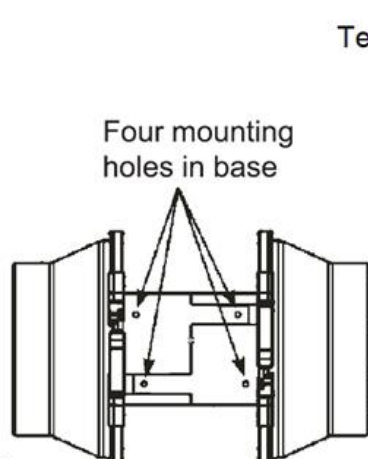

Fig. 9 – Secure Base
4. Secure the housing base to a suitable mounting point using the mounting holes in the base. (Fig.9)